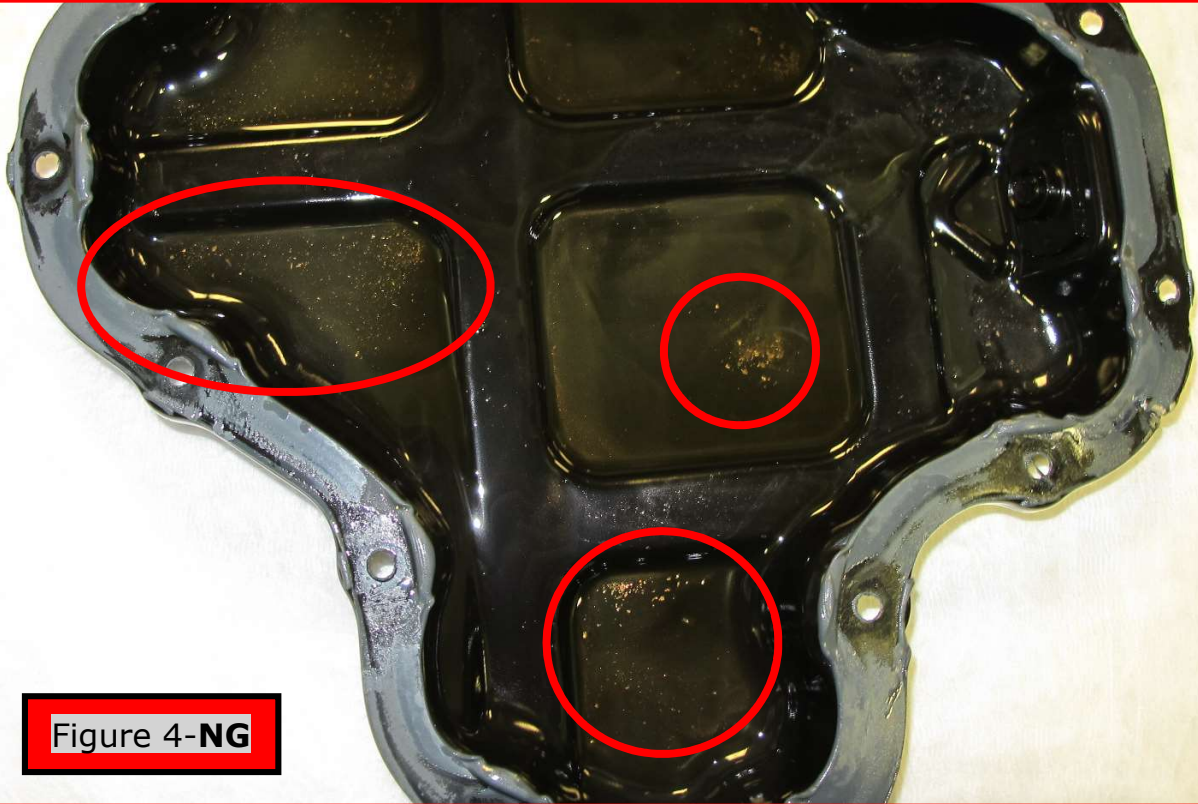

Figure 4-NG
- Any amount of **gold** colored debris in engine oil pan is **NG (Figure 4)**